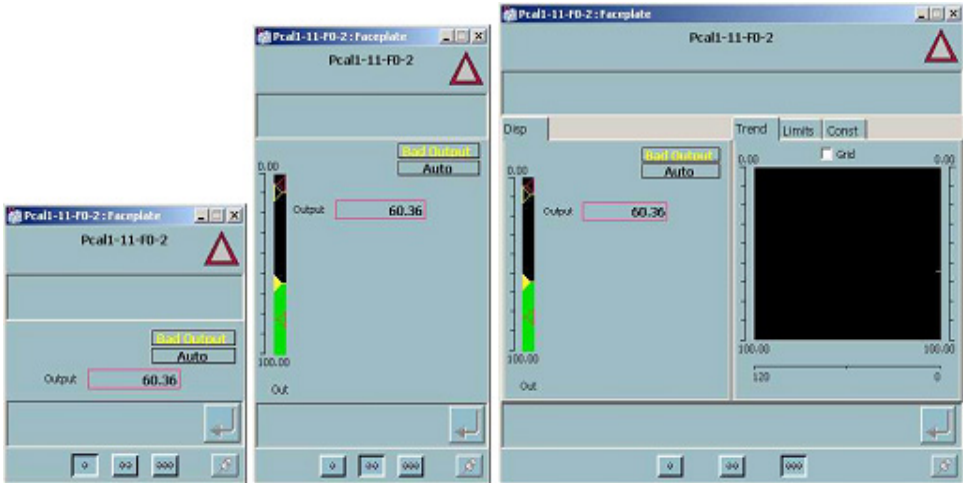

Figure 182. CAL Module
**Calculation (CAL).** Calculation faceplates are representations of 800xA for DCI calculation tags. Each CAL module performs one of many available arithmetic functions including addition, subtraction, multiplication, division, flow compensation, value selection, square root extraction, log, power, lead and lag filters, and trig functions. The CAL module takes up to four analog signals from modules, performs arithmetic operations on the signals, and stores the results as engineering units in output. A CAL module reports the calculated value, range, engineering units, alarm levels, calculation constants, alarm status and quality that are presented in these faceplates. Figure 182 shows the layout of the CAL reduced, normal, and extended sized faceplates and their attributes.